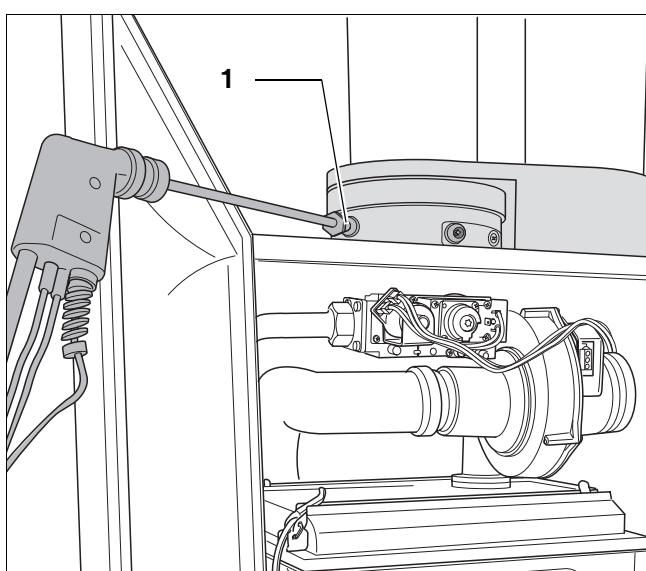

fig. 20 Measuring the carbon monoxide content
3.5 Measuring the carbon monoxide content (CO)
- Measure the carbon monoxide content on the flue gas sampling point (fig. 20, pos. 1).